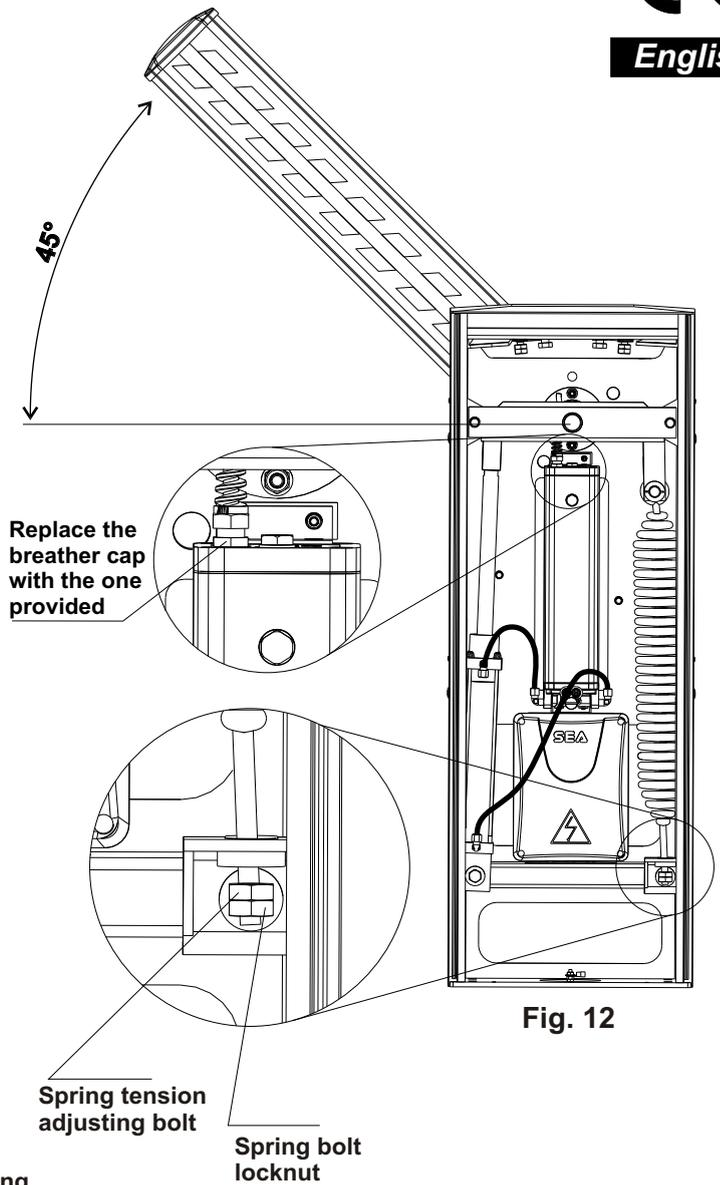

Fig. 12
- Place the beam at approx. 45° and execute the balancing with the nuts of Fig. 12.
- Tight or untight the spring adjusting bolt locknut so that the spring reaches a balance point with the beam at 45° (Fig.12).